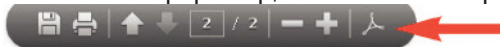

Figure 3
- To open the attachment, download the pdf and click on the paperclip icon to the left of your Adobe Acrobat window. If the paperclip is not visible, pass your mouse pointer over the lower part of the Acrobat window and the Acrobat toolbar should appear as seen below (Figure 3). Click on the Acrobat icon on the far right to access the paperclip, then click on the paperclip to open the attachment.